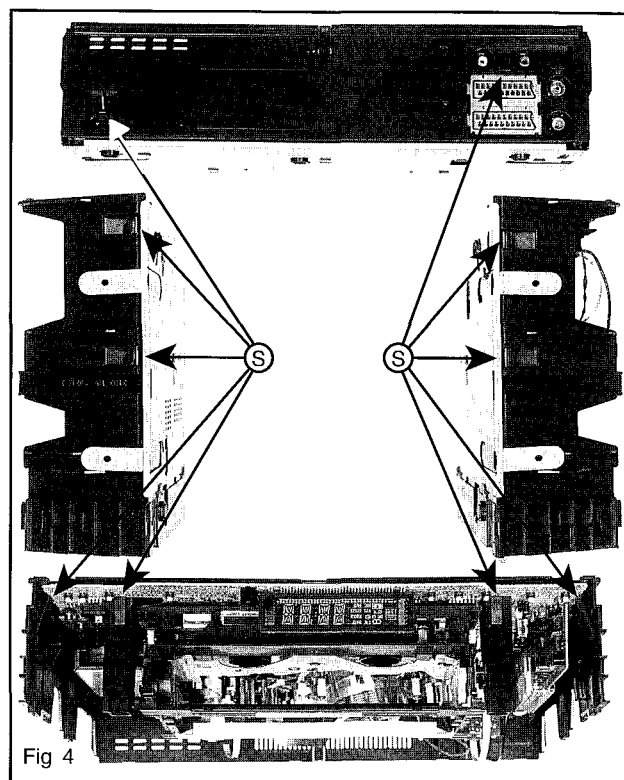

Fig 4
4. Dismantling of the motherboard/drive combination (Fig. 3) (Fig. 4)